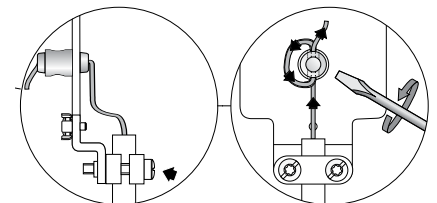

Figure 4: Cable Shortening
4. Loosen (2X) Torx screws located on lower cord grip. [Figure 4]